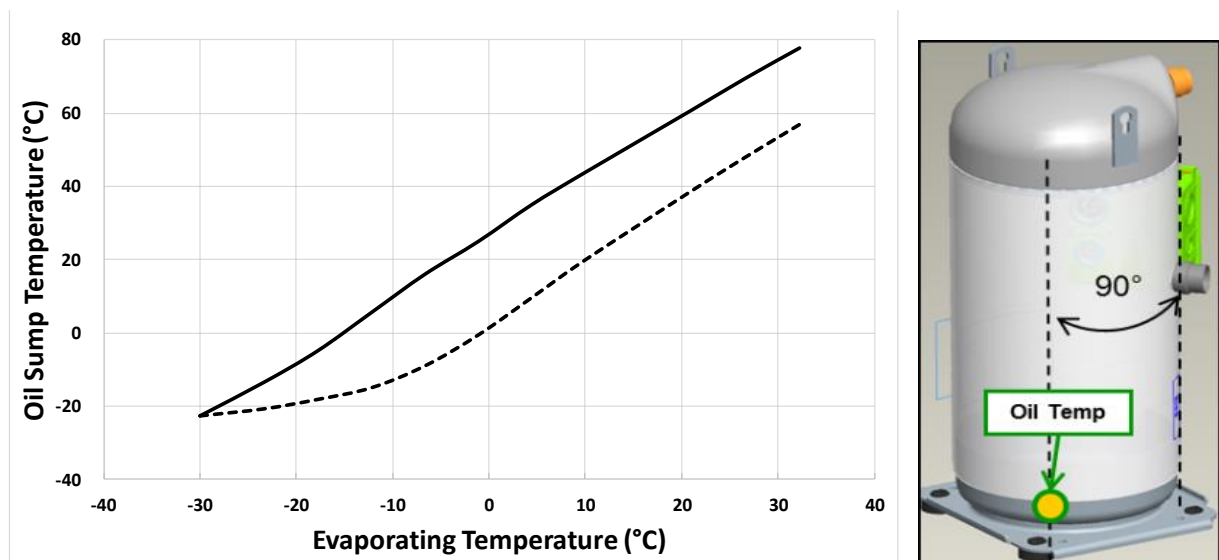

Figure 14: Oil dilution chart with R452B (tb = bottom shell temperature; te = evaporating temperature) and position for oil temperature sensor
- **In all systems:** to test liquid floodback, all possible transient operation conditions in the system should be checked, eg, compressor frequent start/stop, compressor start after long off time with migration, defrost, switching between the operation modes in reversible systems, load changes, fans or pumps cycling at low load and more. To evaluate the risk of liquid floodback, please refer to the oil dilution chart in **Figure 14**. Liquid level and superheat at compressor inlet have to be checked.
temperature must remain in the (green) safe area, as shown in the oil dilution chart in **Figure 14**. In case of operation in the (red) unsafe area, adjustments are required in order to modify the system design, refrigerant charge or superheat setting of the expansion device(s). The bottom shell temperature should be measured accurately. The thermo-probe must be well insulated and positioned on the opposite side of the sight glass or at an angle of 90° clockwise from the suction inlet with view on the top.